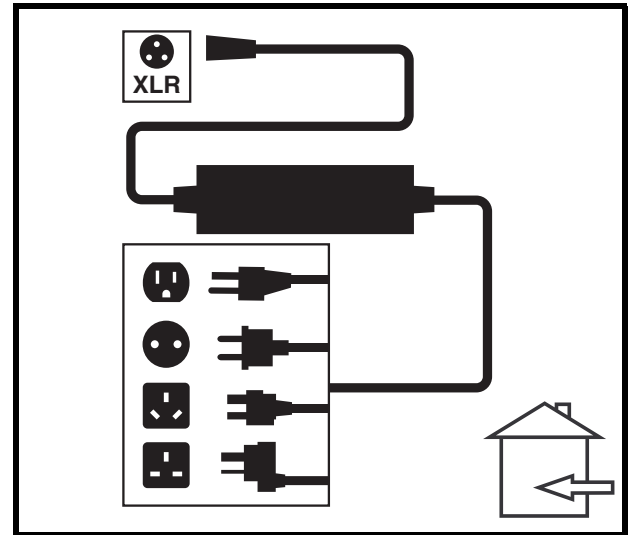

Figure 31. Battery Charging
3. Plug the off-board charger into the off-board charger socket on the controller. See figure 31.